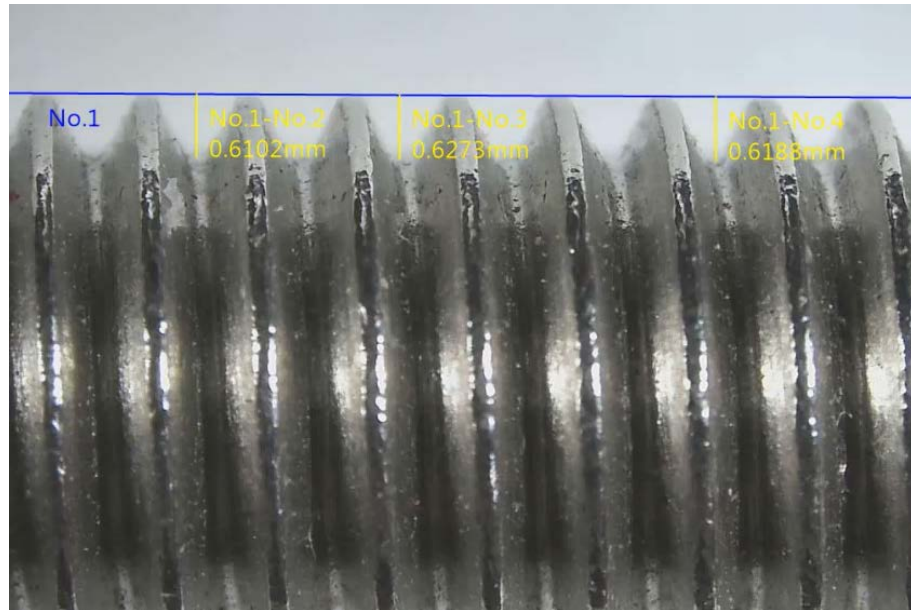

Fig.5-20 Measure the wave depth
- (11) Perpendicular Line: Apply  to measure perpendicular, see Fig 5-20. Draw the 1st start line on the measuring object, then click mouse left button to draw perpendicular lines till the bottom of depth. Click Mouse right button for completion.